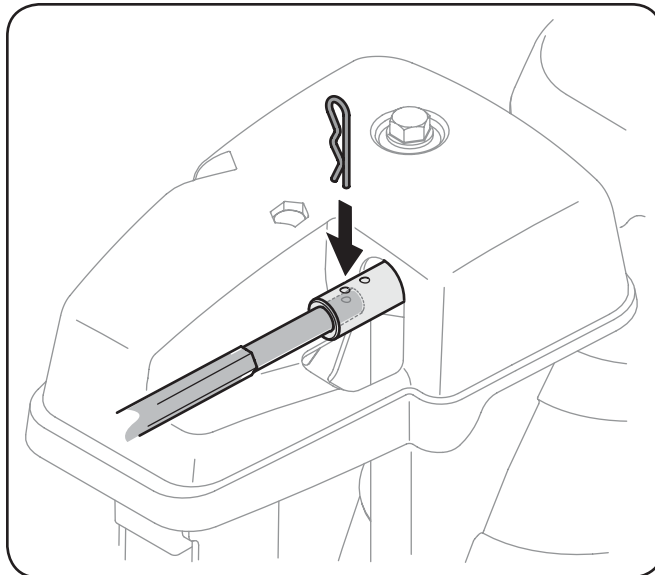

Figure 6-7
2. Pull out the chute control rod until the hole in it lines up with the second hole in the chute rotation assembly. See Fig. 6-7.